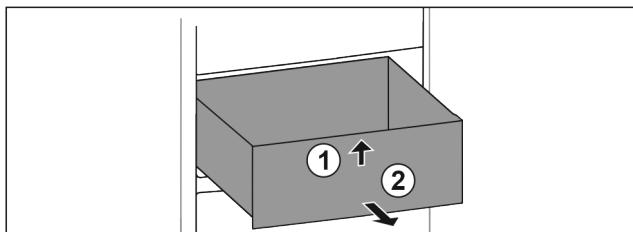

Fig. 66
- Lift up drawer at the front. Fig. 66 (1)
- Remove drawer to the front. Fig. 66 (2)